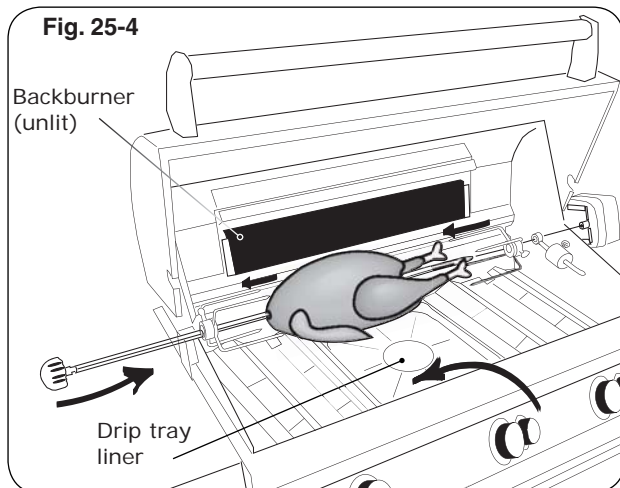

Fig. 25-4
4. Slide the left meat holder onto the rod (and tighten), the meat onto the rod and into the holder, followed by the right meat holder onto the rod and into the meat as shown in Fig. 25-4. Tighten the right meat holder. Be sure the meat is centered and balanced as well as possible.
9. To keep drippings off the burners and simplify cleanup, place Fire Magic® drip tray liners under the meat, if desired (Fig. 25-4).